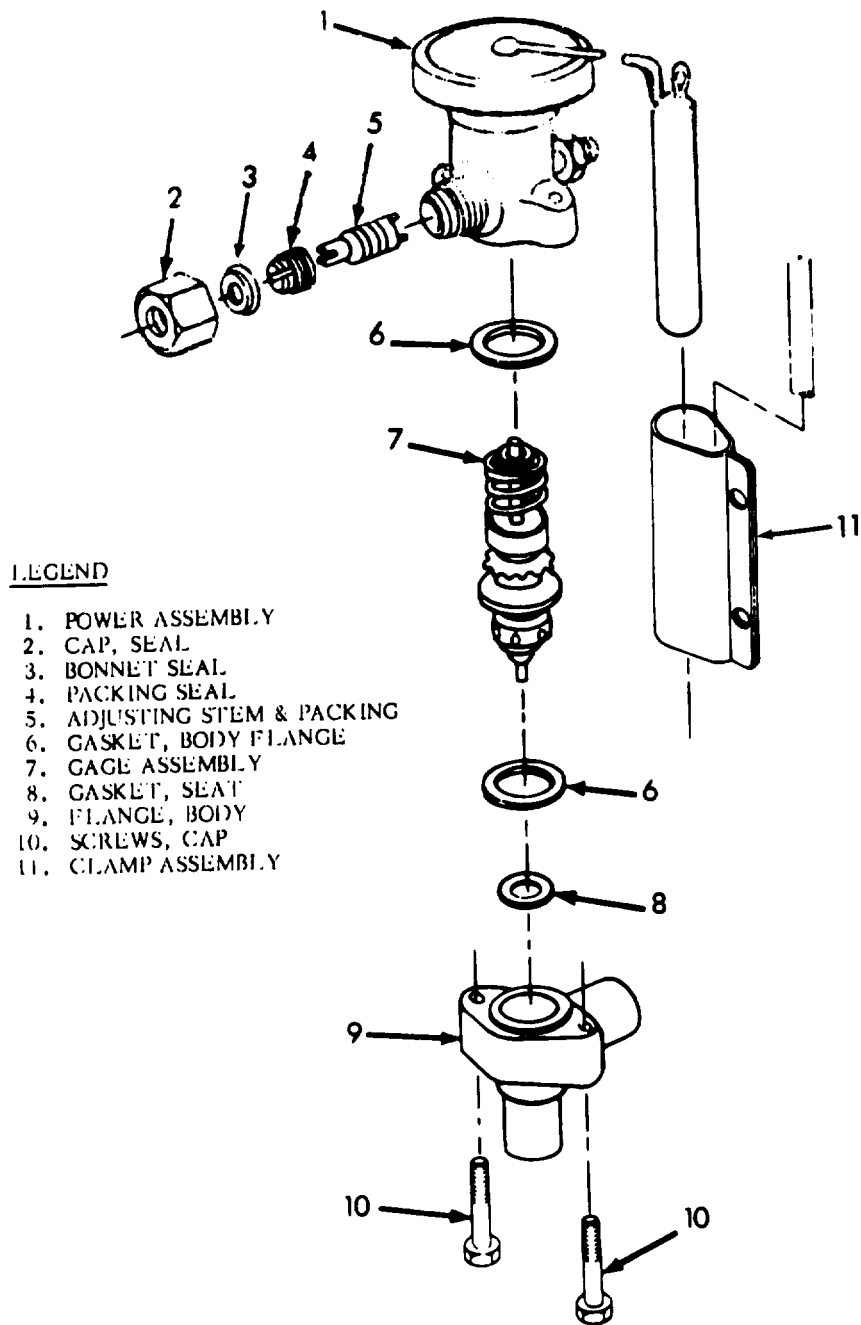

Figure 5-9. Typical Therma1 Expansion Valve
### 5.76. Description (See figure 5-9).
A refrigerant gas is said to be superheated when its temperature is higher than the evaporating temperature corresponding to its pressure at saturation. When a thermal expansion valve is set for optimum superheat (in this case 6°F or 3.3°C above the evaporating temperature of the refrigerant at a given pressure) the evaporator coil operates at maximum efficiency. That is, the refrigerant gas does not become warm before reaching the end of the coil, which would reduce the coil's cooling capacity, and the refrigerant does not remain in the liquid state after passing completely through the coil, which could result in severe damage to the compressor. When the expansion valve is properly adjusted, the temperature difference (TD) across the evaporator should be 18-22 degrees F while the air conditioner is operating normally. Compare the dry bulb temperatures of air entering and leaving the evaporator to find the TD. The temperature at the evaporator discharge grill will depend upon the return air temperature. The superheat setting of a thermal expansion valve can be adjusted by varying the setting of a compression spring (7, figure 5-9) in the power assembly of the valve. This spring tends to hold the valve closed against the pressure in the sensing bulb and capillary tube; therefore, the greater the spring pressure, the higher the superheat. Check superheat, and adjust if necessary, in accordance with the following procedure:
(1) Evaporator expansion valve:  $6^{\circ} \pm 1.5^{\circ}$  For  $3.3^{\circ} \pm 0.8^{\circ}\text{C}$
(2) Quench expansion valve:  $30.4^{\circ} \pm 0.5^{\circ}$  For  $16.7^{\circ} \pm 0.3^{\circ}\text{C}$
f. If the superheat setting is not within the limits shown above (higher than values in Table 5-2), adjusting the expansion valve as follows: (See figure 5-9).
(1) Remove the hexagonal seal cap (2, figure 5-9) from the side of the powe rassembly (1), and loosen the bonnet seal (3).
(2) Turn the adjusting stem (5) two complete turns to change superheat one degree F. Turn clockwise to raise, and counterclockwise to lower. the superheat setting. Do not turn more than two full turns. then wait two minutes for temperature to stabilize before observing temperature and pressure readings.
(3) When the proper setting is obtained, replace the screw cap and seal on the valve adjusting stem (5).
Whenever a leak is detected or a refrigeration component must be replaced, you must discharge all gas from the refrigeration system (paragraph 5.22.a). Refer to figure 5-8 for identification of service valves. Remove the expansion valve from the air conditioner as directed in the following steps: (See figure 5-9).
a. Disassemble the valve by removing two capscrews (10) that secure the power assembly (1) to the valve body (9), and separate the two.
d. Install power assembly (1, figure 5-9) on valve body, being careful to fit lugs on the cage assembly (7) into the cavities in the body (9). Secure with two capscrews (10). Connect equalizer line,if applicable.
- (1) Unscrew the equalizer tube flare nut from the power assembly of the valve. (See figure 5-9).
- (2) Remove two mounting screws (10, figure 5-9) from the bracket and valve body. Carefully separate the power assembly (1) from the valve body (9), and remove gaskets (6 and 8) and cage assembly (7).
- (3) Provide a flow of 1-2 cfm (0.1 -0.2 M3/min) of dry nitrogen through the system from the discharge service valve for at least three minutes, then debraze the liquid line from the expansion valve.
*c.* Position the liquid line expansion valve body (9, figure 5-9) on its support bracket, and align by securing with two screws (10) and slave nuts. Do not install power assembly at this time. Braze liquid line to valve body.
*d.* Install new gaskets (6) and seat (8) in valve body.